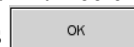

Fig. 2-18 Open Cover
- Open the SMC cover by pressing down on the red latch (Fig. 2-18).